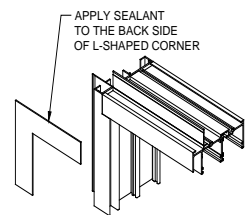
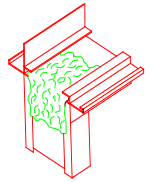

Figure 1a
Figure 1b
9. Assemble the frame. Apply sealant to the back side of the L-shaped aluminum corner pieces (if required) and attach to the exterior face of the nail-fin at the corners of the head as shown in figure 1a. Seal the joints completely with compatible sealant. **IMPORTANT:** Apply a heavy bead of sealant to the interior side of the mounting flange (nail-on) where the door frame jamb and sill join. Sealant must cover the entire joint (from the flange to the inside leg of the door) and extend 1-1/2" up the jamb and along the sill. (See figure 1b).